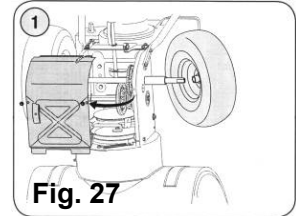

Fig. 27
b. Remove the right-hand wheel by removing the screw and bell washer which secure it to the axle. See Figure 27.